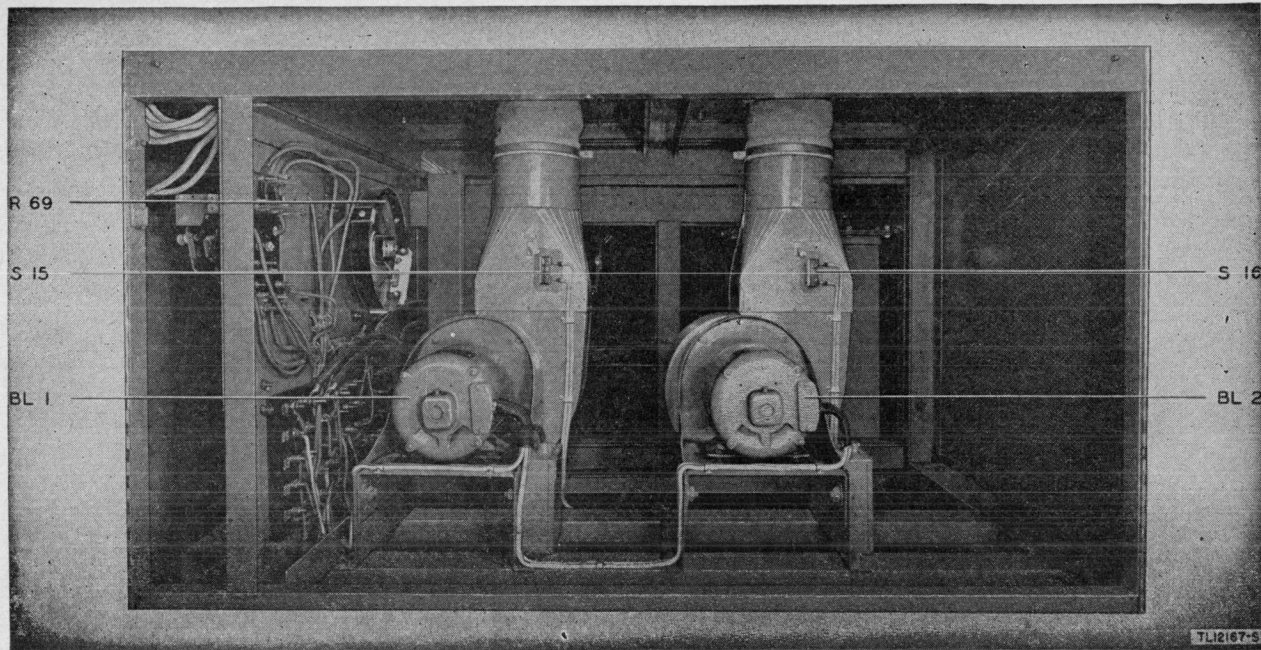

Figure 55. Power amplifier blower compartment.
*b.* Two blowers BL1 and BL 2 are provided, one for each tube. (See fig. 55.) An air interlock switch is attached to the airduct of each blower (S15 and S16) and prevents any voltage being applied to the p-a tubes until the air flow has started. This interlock assembly consists of a vane inside the duct which operates a microswitch when the air flow is sufficient to move the vane. Thermal switch RL15 is in the primary circuit of the blower motors.